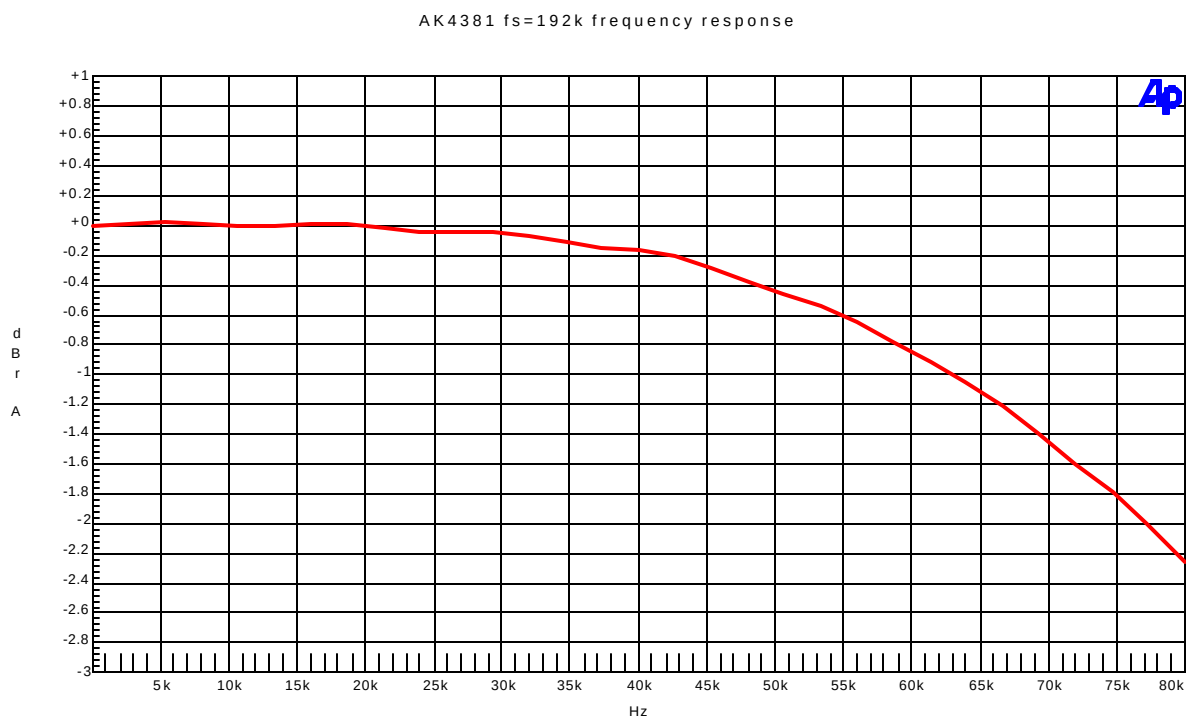

Figure33. Frequency Response (Input level=0dBFS)
- Figure33. Frequency Response (Input level=0dBFS)